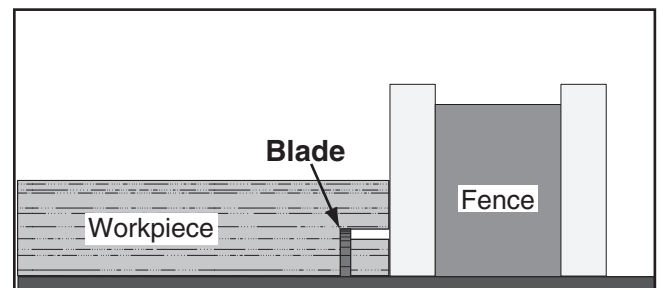

Figure 128. Second cut to create a rabbet.
7. Lay workpiece flat on table, as shown in **Figure 128**, adjust saw blade height to intersect with first cut, then perform second cut to complete rabbet.